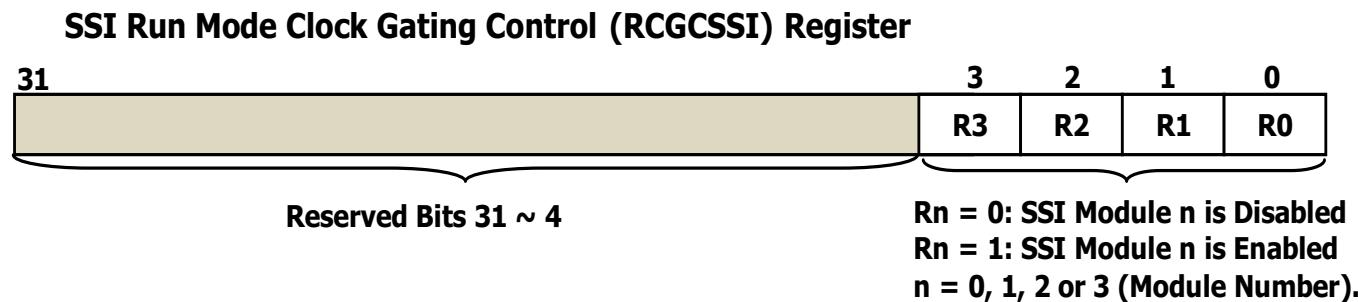

Figure 8.15 The bit field and value in RCGCSSI register.
- Figure 8.15 shows bit fields and related control values on the **RCGCSSI** register. This register is used to enable and provide clock to the desired SSI module. If the related bit **Rn** is **0**, the corresponding **SSI Module n** is disabled. Otherwise if **Rn** is **1**, the **SSI module n** is enabled.
1. Enable the **SSI module** using the **RCGCSSI** register (Figure 8.15 in section 8.3.4.3.4).